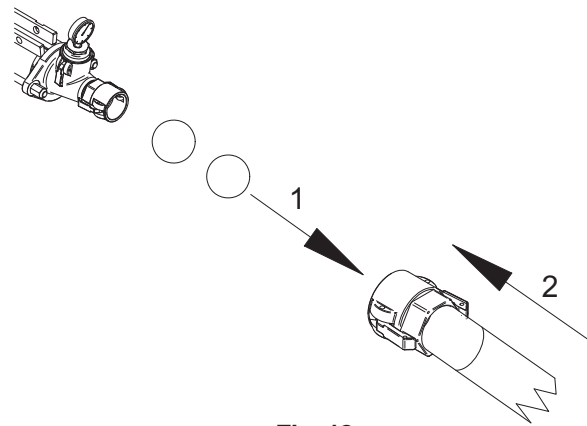

Fig. 12
- Insert two washing sponges into the pipes, still full of material (Fig. 12, Ref. 1) and fit the pipe to the manifold again (Fig. 12, Ref. 2)